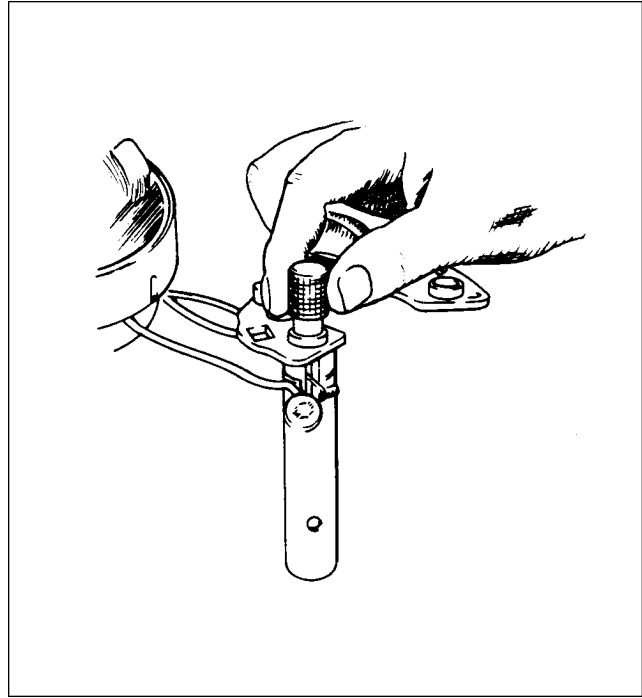

Figure 11-25. Removal of Rectifier
- e. Remove the nuts, lockwashers, flat washers and insulators from the output and auxiliary terminal studs. Note carefully the correct assembly of the insulator washers and bushings. Using the special tools shown in Figure 11-25, support the end head and press out the three negative rectifiers. The end head can now be separated from the stator assembly.